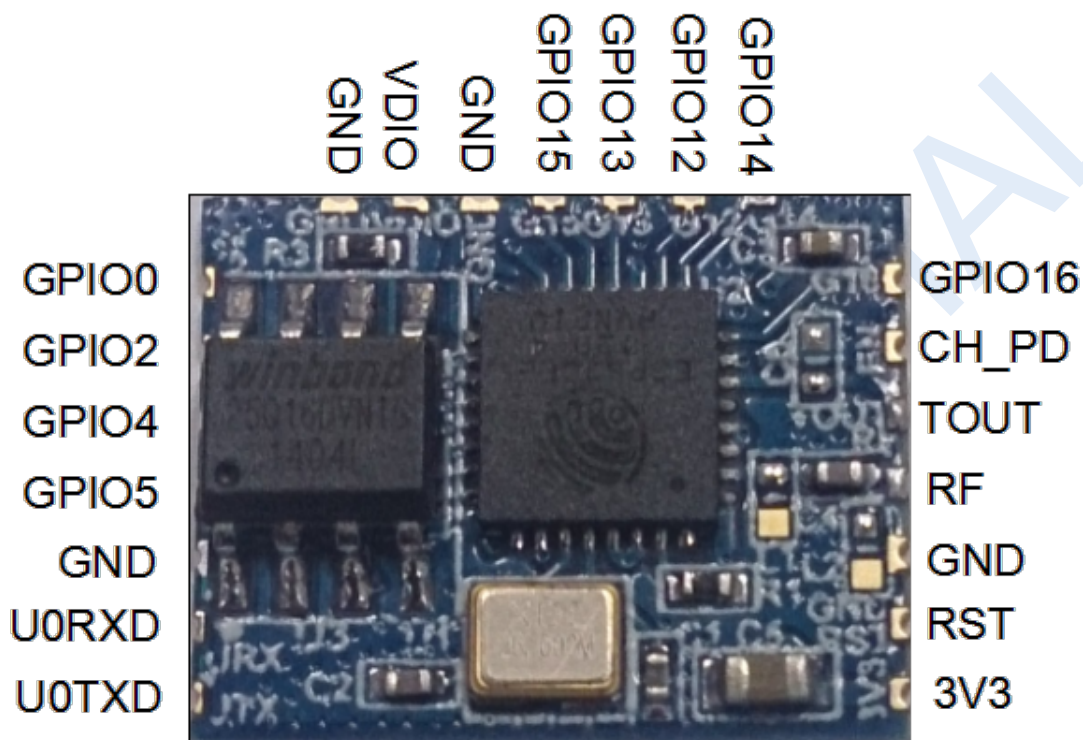

Figure 5: WROOM SMD Module
1. Refer to Figure 5 for pin definition. Module size is 11.8x15mm. Flash package is SOP8-150mil. Refer below for usage of SMD module (Tables in section 1.2.1 for reference):
### 1.3.2. Sensor Application (as in Fig. 5 USB Sensor Demo)